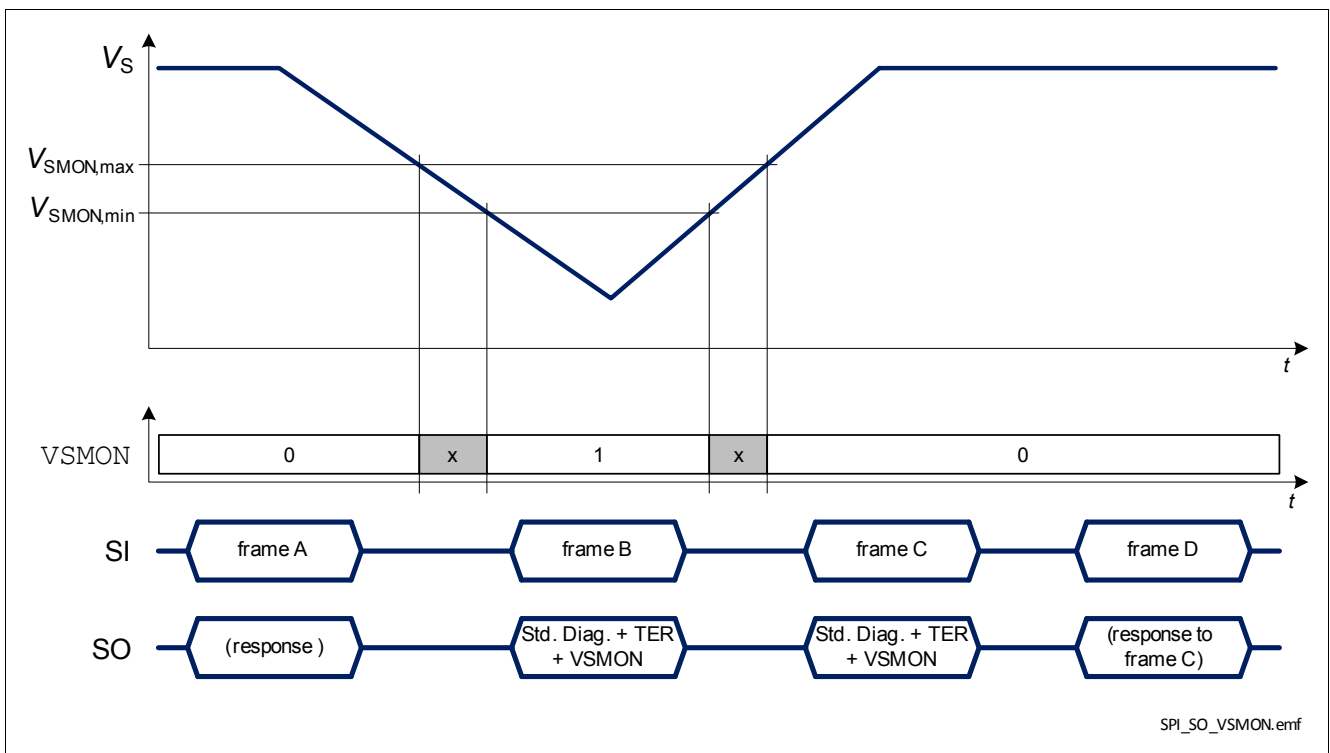

Figure 34 BTS54040-LBA response in case of a negative battery voltage transient
- when $V_S < V_{SMON}$ and $\text{DCR.MUX} \neq 111_B$, as shown in Figure 34